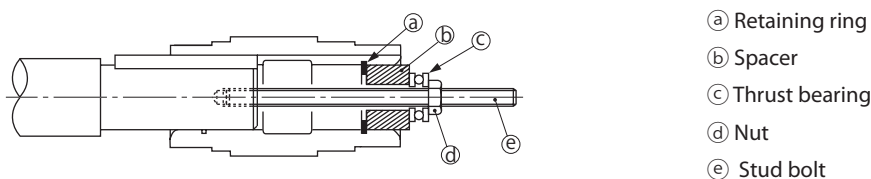

Figure 5-9 Mounting Jig
- [2] If the fit is tight, lightly hit the end face of the hollow shaft with a wooden hammer to insert the shaft. When doing so, never hit the case or the oil seal directly. If the fit is particularly tight, use a jig such as the one shown in Figure 5-9 for a smoother insertion.